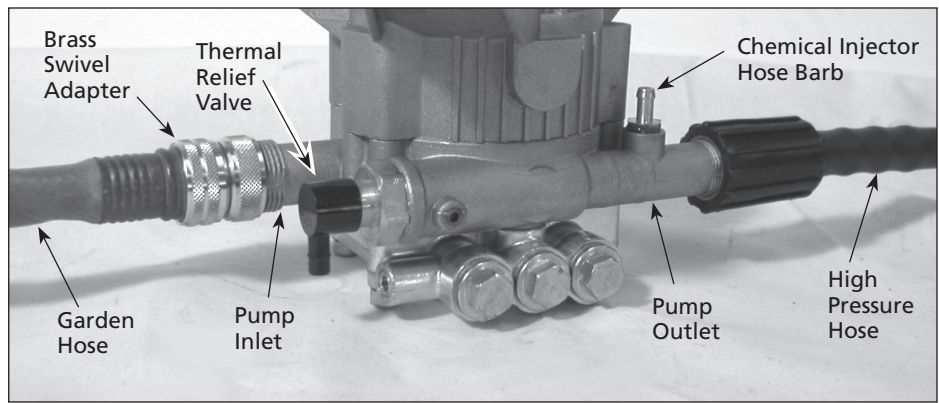
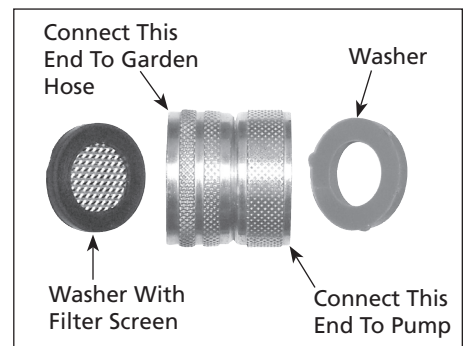
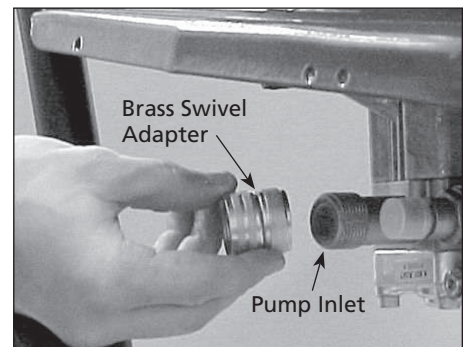

Figure 2 - Pump hook up
Figure 4 - Brass swivel adapter
Figure 5 - Connect the brass swivel to the pump
4. **Brass Swivel Adaptor** (See Figure 2). If it's not already attached to the pump inlet, assemble the brass swivel adaptor and attach it to the pump inlet (See Figure 4 and Figure 5). Be sure to connect the correct side of the brass swivel adaptor to the pump.
- Connect the high pressure hose to the pump outlet (See Figures 2 and 6).